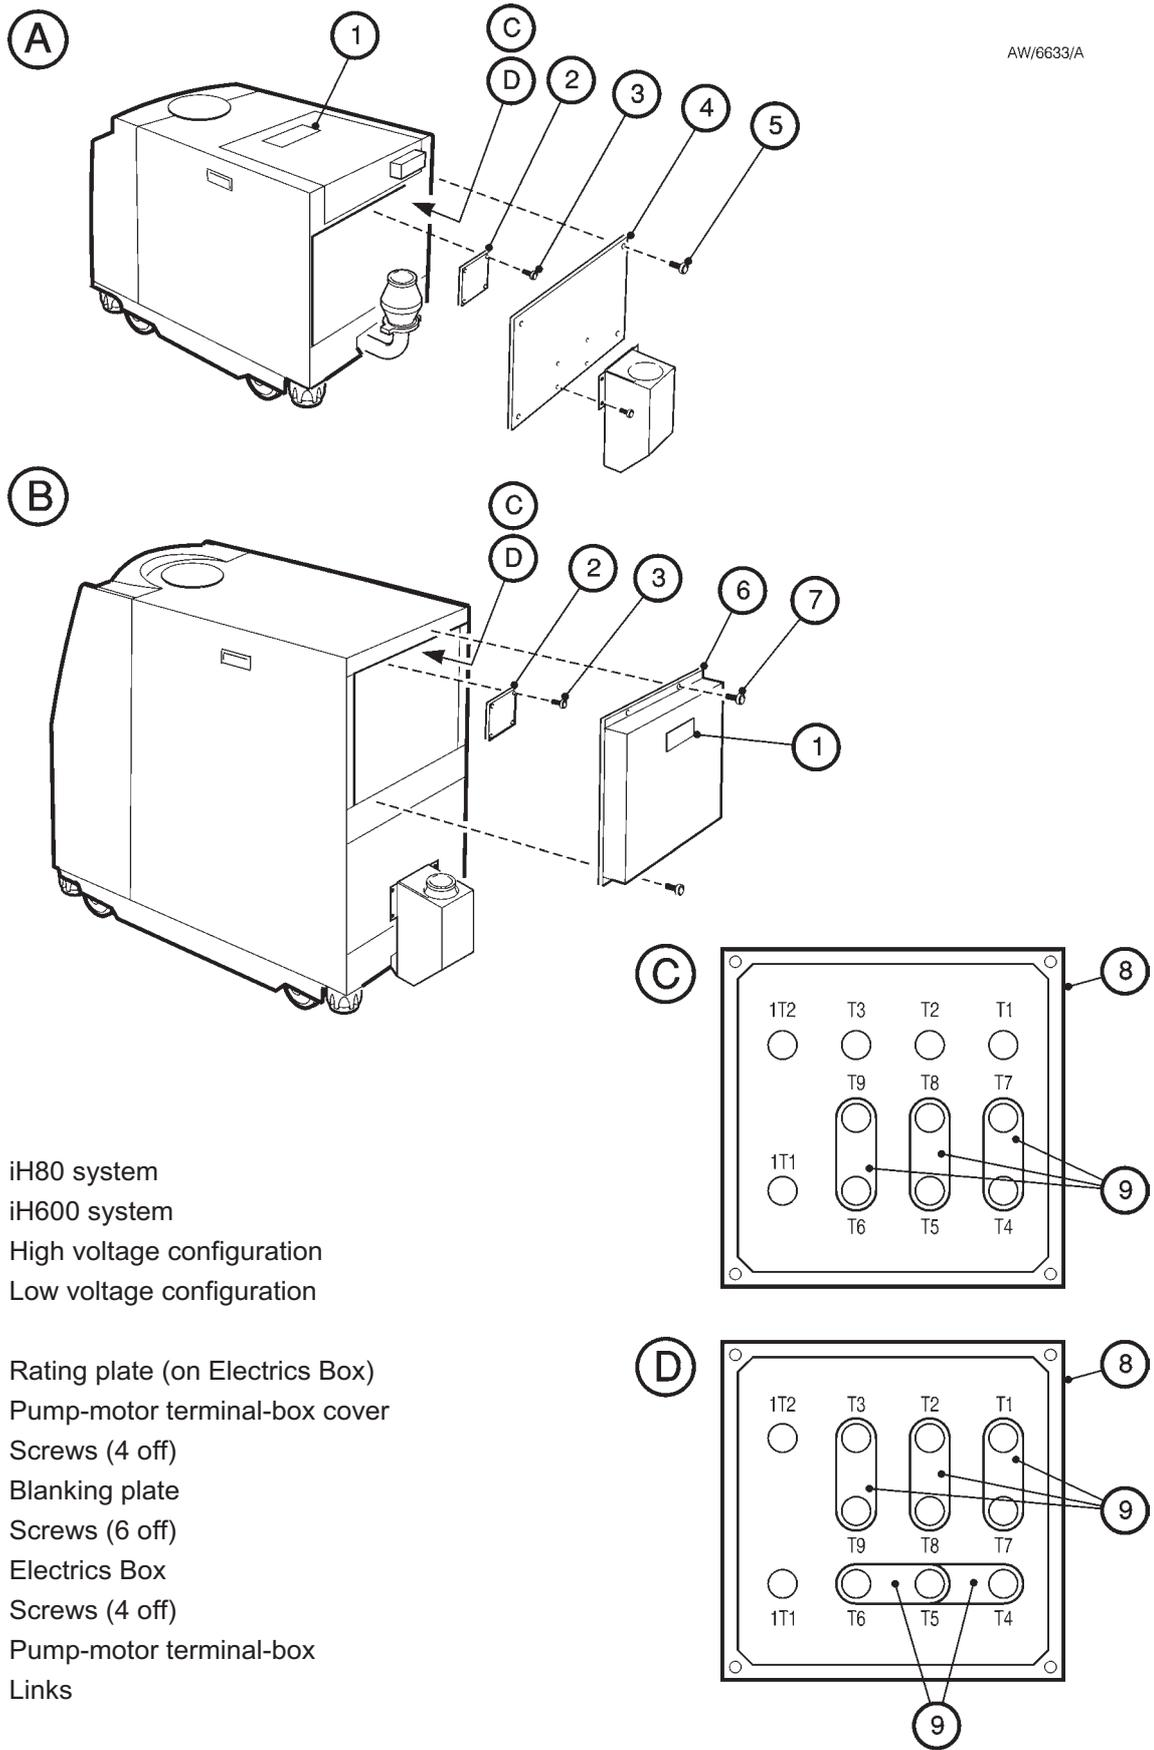

Figure 3-9 - Reconfigure the pump-motor terminal-boxes (iH80/iH600 only)
*Note: You cannot reconfigure an iH1000 system. If you want to use an iH1000 system with a different electrical supply to that specified on the rating plate (Figure 3-9, item1), contact your supplier or BOC Edwards.*
Your iH system will be supplied correctly configured for your electrical supply; the Item Number of the iH system (shown on the rating plate: Figure 3-9, item 1) specifies how the system is configured: refer to Section 2.13.
*Note:* You cannot reconfigure an iH1000 system. If you want to use an iH1000 system with a different electrical supply to that specified on the rating plate (Figure 3-9, item 1), contact your supplier or BOC Edwards.
1. Refer to Figure 3-9 detail A. Undo and remove the six screws (5) which secure the blanking plate (4) over the HCDP pump-motor, and remove the blanking plate.
2. Undo and remove the four screws (3) which secure the cover (2) to the HCDP pump-motor terminal-box.
3. Look at the links in the terminal-box (8):
- For high voltage operation (380-415 V at 50 Hz or 460 V at 60 Hz), ensure that the links (9) are in the positions shown in detail C.
- For low voltage operation (200-208 V at 50 Hz or 200-230 V at 60 Hz), ensure that the links (9) are in the positions shown in detail D.
4. Refer to detail A. Refit the cover (2) to the HCDP pump-motor terminal-box and secure with the four screws (3).
5. Refit the blanking plate (4) and secure with the six screws (5).
7. Refer to detail B. Undo and remove the four screws (7) which secure the Electrics Box (6) to the rear of the iH system, then carefully lower and support the Module. Ensure that you do not disconnect, break or damage any of the cables connected to the Module.